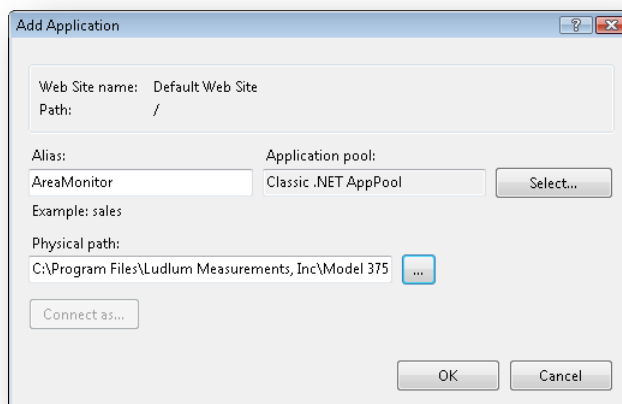

Figure 76 – Add Application
9. In the SQL Server Management Studio window, click on the plus icon next to the “Databases” folder in the left pane. The SQL Server Management Studio window should now resemble Figure 76.